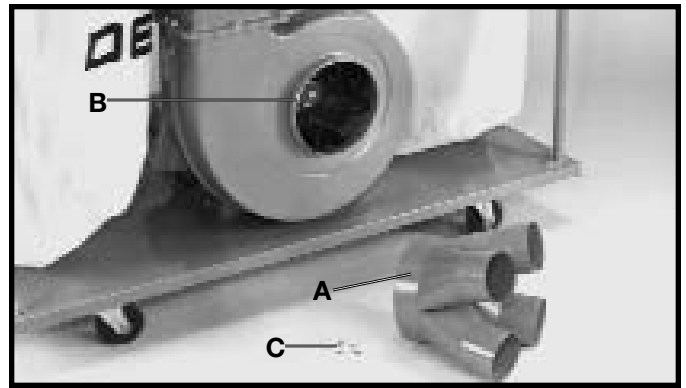

Fig. 29
1. Align the four holes in the dust intake port (A) Fig. 29, with the mounting holes in the lip of flange (B) of blower assembly and fasten with four sheet metal screws (C).